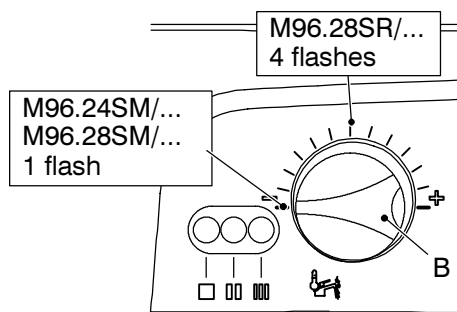

Fig. 38
At this step it is possible to visualize the current setting by keeping the reset button C pressed for more than 5 seconds. The lamps E will flash a number of times corresponding to the setting (Fig. 38).
- 6 To change the setting turn the knob B on a position corresponding to the boiler models (Fig. 38). By turning the knob B, the lock-out signal lamp D blinks quickly (2 per seconds) indicating that the setting has changed and must be memorised.